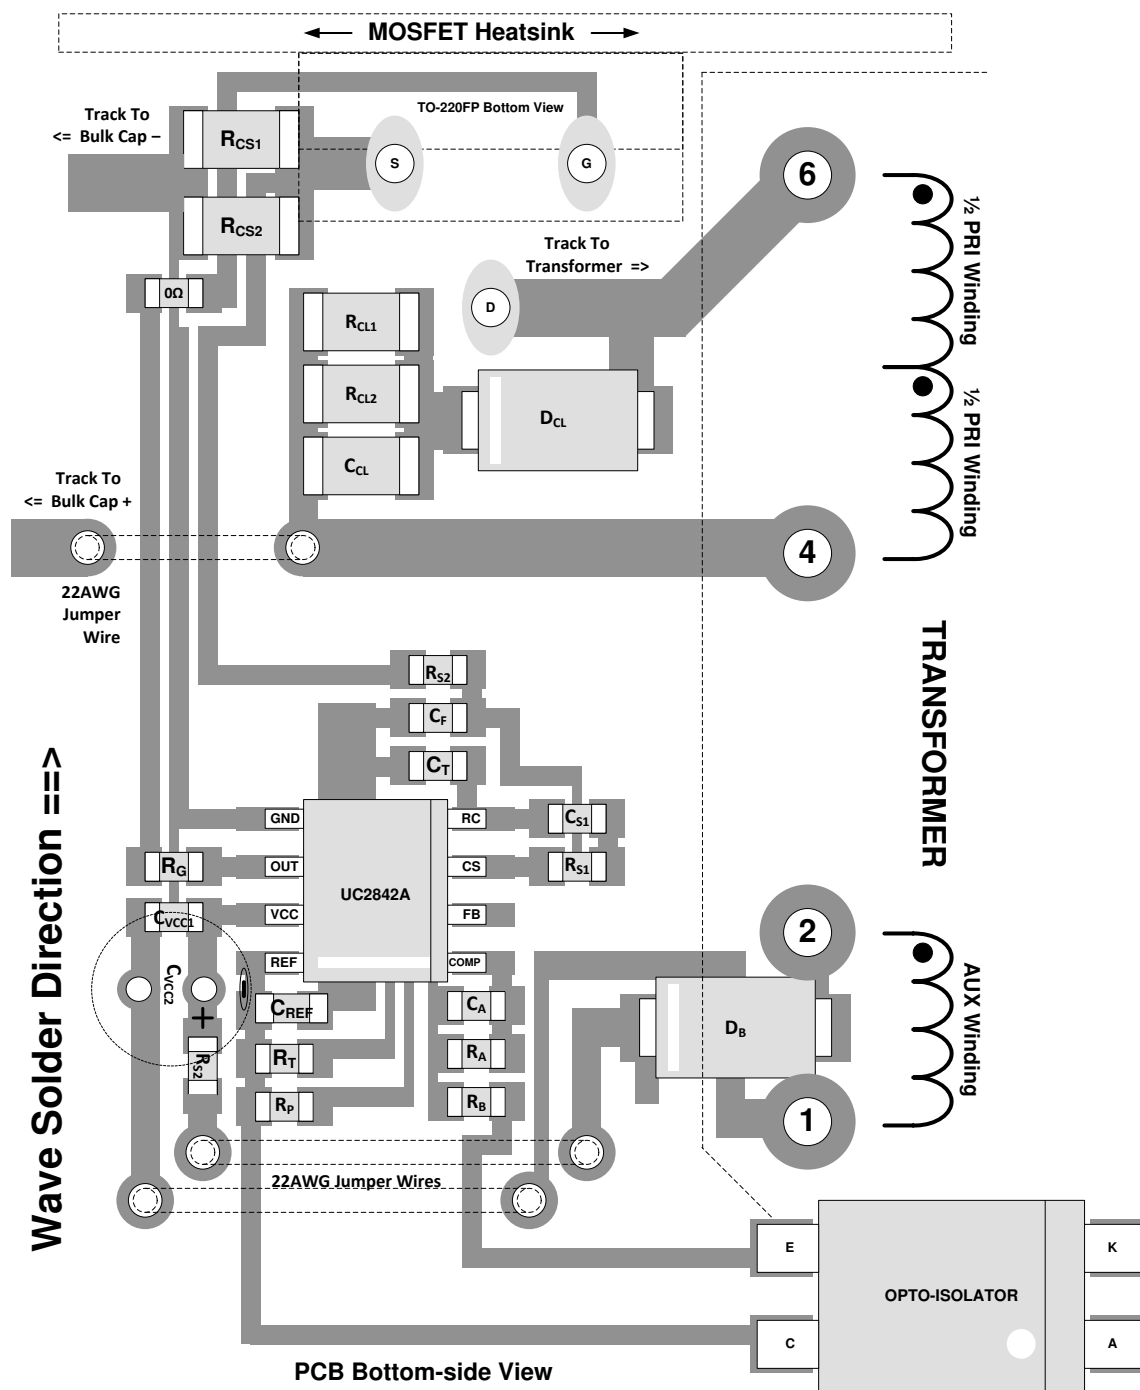

Figure 8-6. Layout Diagram
- Figure 8-6 shows the SMD components arranged for wave-solder on a single-layer board. If multiple layers are used, some components may be rearranged for easier interconnection and reduced current-loop areas. If the solder process allows, placing the SMD components in perpendicular orientations may improve interconnections and loop areas.